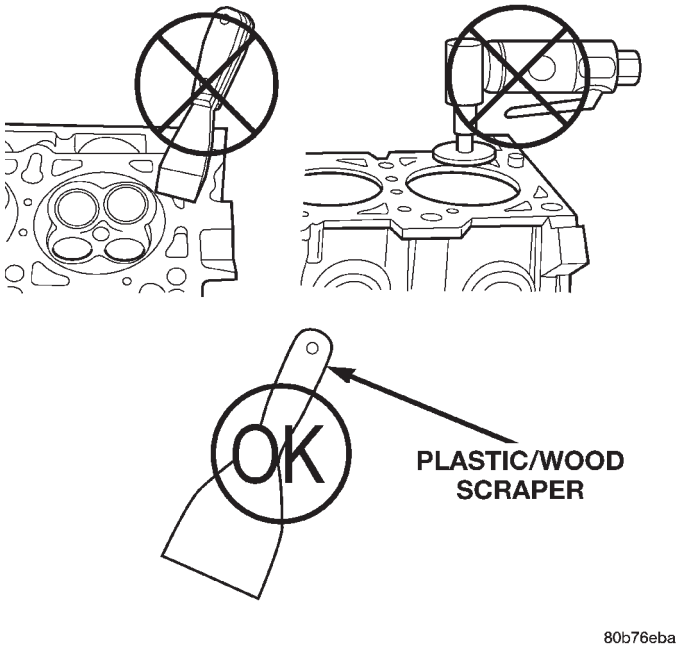

Fig. 50 Proper Tool Usage For Surface Preparation
- (1) Clean the cylinder head and cylinder block mating surfaces (Fig. 50).
- (2) Position the new cylinder head gasket on the locating dowels.